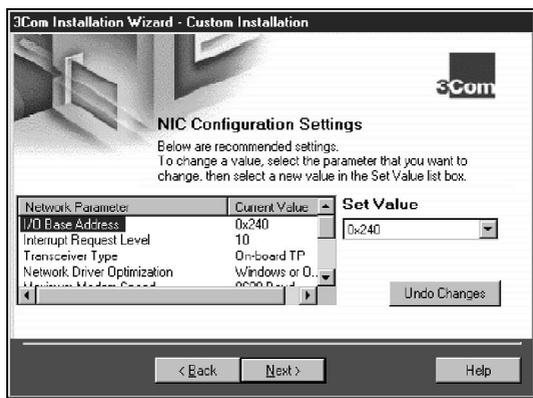

Figure 3-2 NIC Configuration Settings Screen
When you configure the NIC using the 3Com Installation Wizard, you must make sure that this setting matches the value displayed on the NIC Configuration Settings screen. See Figure 3-2.
The NIC Configuration Settings screen appears, as shown in Figure 3-2. The list box displays recommended configuration settings for the NIC. You can either accept the recommended settings or change one or more to suit your operating environment.
- 2 In the Set Value selection box, click the scroll arrow to select the I/O range setting that you wrote down in “Configuring the NIC” in Chapter 2. See Figure 3-2.